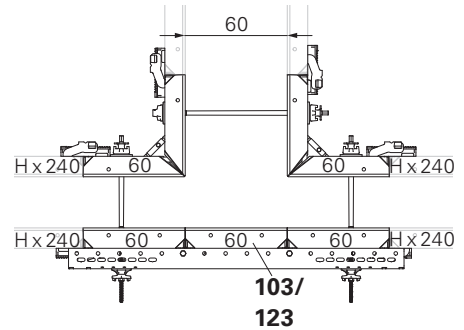

Fig. D3.12
- Wall thickness 60: Fig. D3.12 + D3.09a/c + D3.09b/d